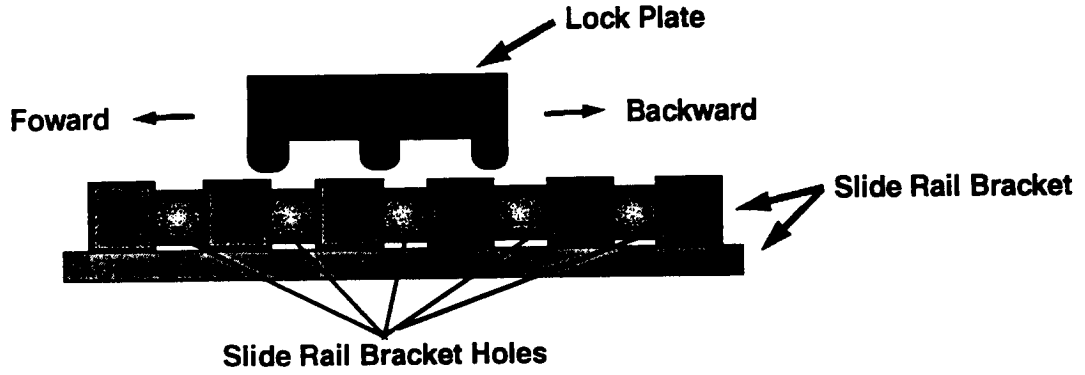

Figure 2
2. Look closely at the lock plate pawls and the slide rail to determine whether the slide rail is misaligned by being too far forward or by being too far towards the rear of the vehicle. (Refer to Figure 2.)